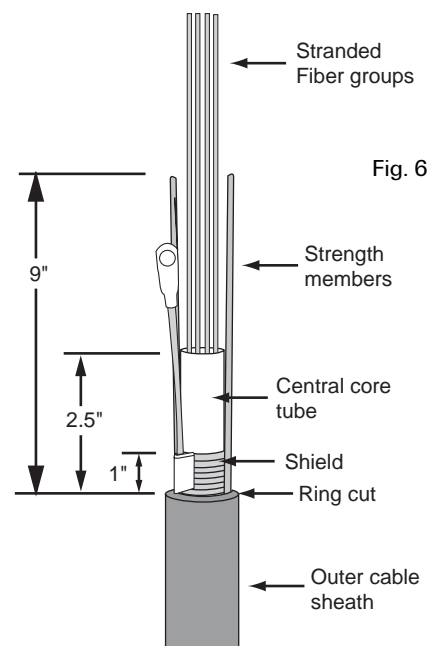

Fig. 6
2. If metal or dielectric dual strength members (e.g., LXE) or multiple metallic strength members (eg., crossply) are present, expose each strength member and cut it off 9" from the ring cut. (Figure 6)
4. If metal shield is present, remove all but 1" of the metal shield. (Figure 6) Pry open a 1" tab in the exposed metal shield where the shield overlaps. Crimp the bond clamp onto the edge of the shield.
6. Cut the central core tube 2-1/2" from the ring cut (1-1/2" beyond the metal shield if present), and remove the excess tube. (Figure 6)
2. If metal or dielectric dual strength members (e.g., LXE) or multiple metallic strength members (eg., crossply) are present, expose each strength member. Cut it off 9" from the ring cut. (See Figure 6)
6. Cut the central core tube 2-1/2" from the ring cut (1-1/2" beyond the metal shield if present), and remove the excess tube. (See Figure 6)